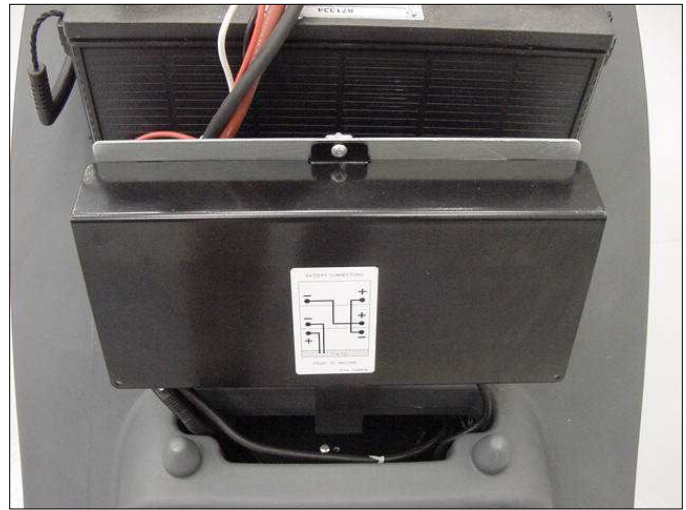

Figure 27 – Electrical Console Cover
2. See Figure 27. Remove the electrical console cover.
- 8.** See Figure 27. Reinstall the electrical console cover.